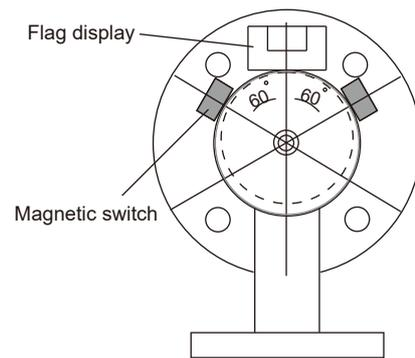

Fig. 6
8. The magnetic switch must be located near the flag display and the surface of it is as close to the outer chamber wall as possible.(Fig. 6)